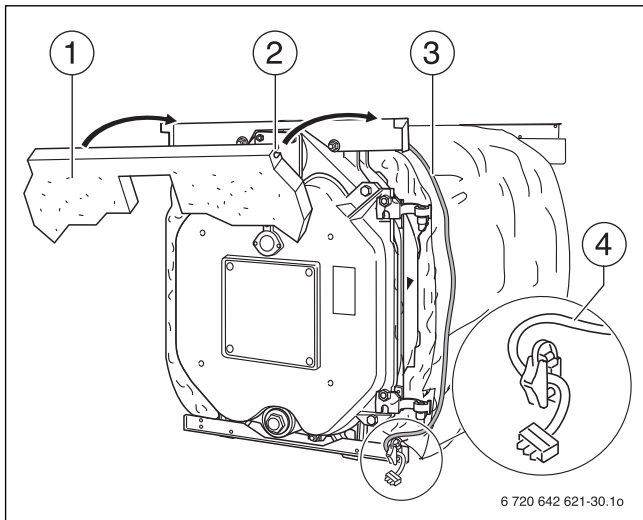

Fig. 36 Fitting the front thermal insulation
- ▶ Push the front thermal insulation (Fig. 36, [1]) with slots (Fig. 36, [2]) onto the front folded edge of the top crosswise tie bar.